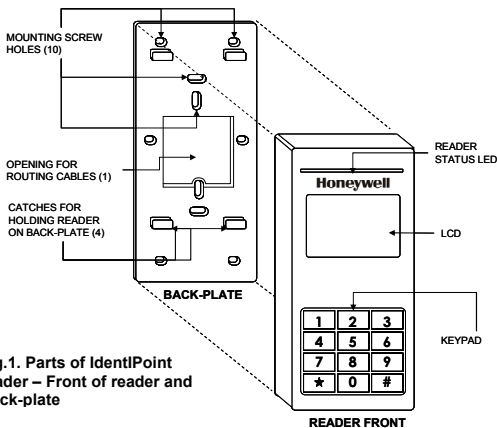
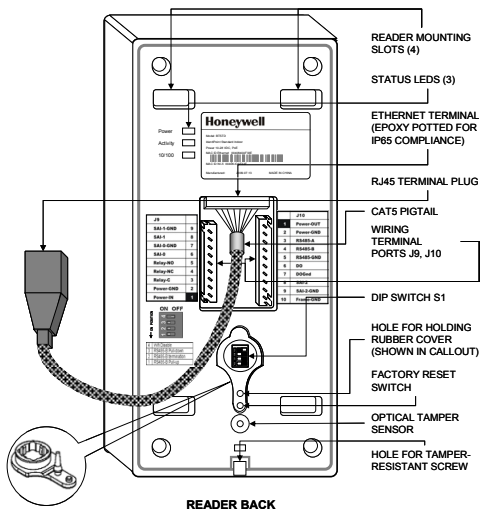

Fig.1. Parts of IdentIPoint reader – Front of reader and Back-plate
Fig.2. Parts of IdentIPoint reader – Back of reader
1. **Fig.1** and **Fig.2** show the parts of the IdentIPoint reader. Use the back-plate of the reader to mark out the position of the reader on the drywall. Mark the positions of the mounting screws and the opening for routing the cables.
1. **Fig.1** and **Fig.2** show the parts of the IdentIPoint reader. Ensure that the correct sized gang-box is securely embedded in the concrete wall. The holes provided in the gang-box for the screws should align properly with at least two of the holes provided in the reader back-plate for the screws.